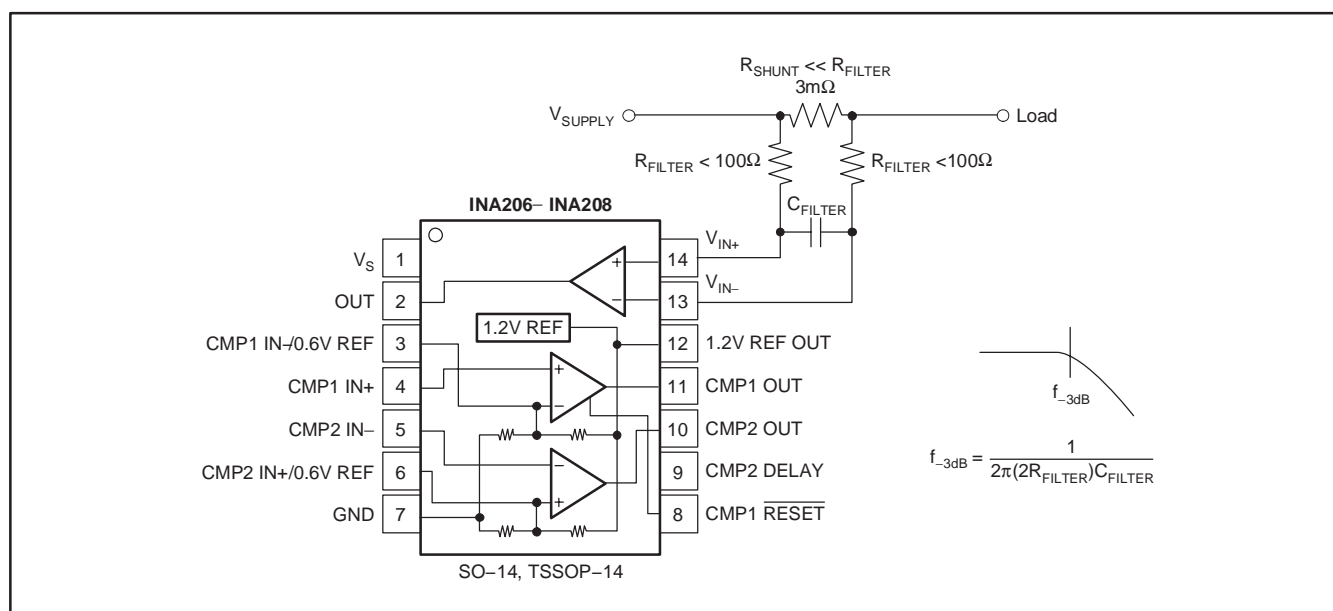

Figure 5. Input Filter (Gain Error – 1.5% to –2.2%)
An obvious and straightforward location for filtering is at the output of the INA206, INA207, and INA208 series; however, this location negates the advantage of the low output impedance of the internal buffer. The only other option for filtering is at the input pins of the INA206, INA207, and INA208, which is complicated by the internal $5k\Omega + 30\%$ input impedance; this is shown in Figure 5. Using the lowest possible resistor values minimizes both the initial shift in gain and effects of tolerance. The effect on initial gain is given by Equation (3):